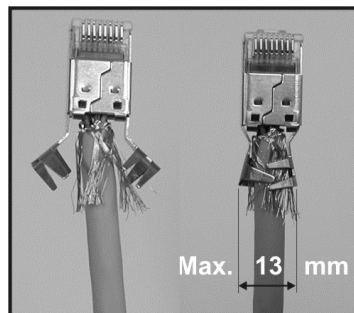

Fig.2.
- ❑ **IMPORTANT:** Prior to crimping, close the shield wings by hand. Width of shield wings shouldn't exceed 13 mm (Fig.2).